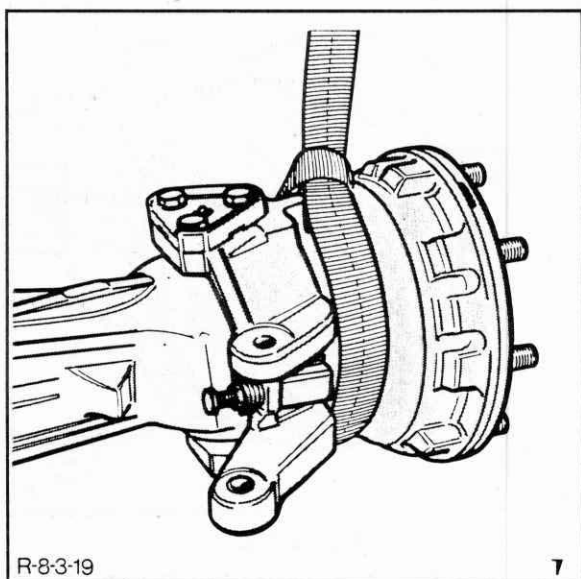

Figure 7-84
7. Bolt the ring gear and carrier assembly to the swivel casing, Figure 7-84. Tighten the bolts, evenly in three stages, to 184 ft. lbs. (250 N·m) torque. A chart in the specification section outline all the bolt torque values for the FWD axle.
2. Position a suitable sling around the hub and swivel casing, Figure 7-84.